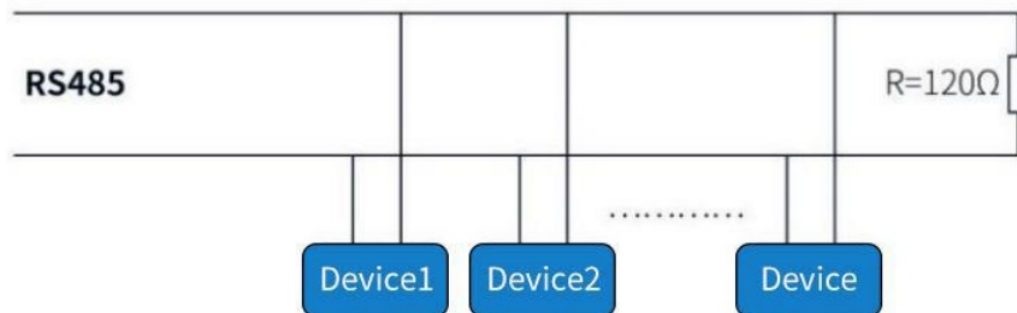

Figure 4-2
- When using RS485 protocol to connect multiple devices, please refer to the connection method shown in Figure 4-2 below (CAN resistance is removed)